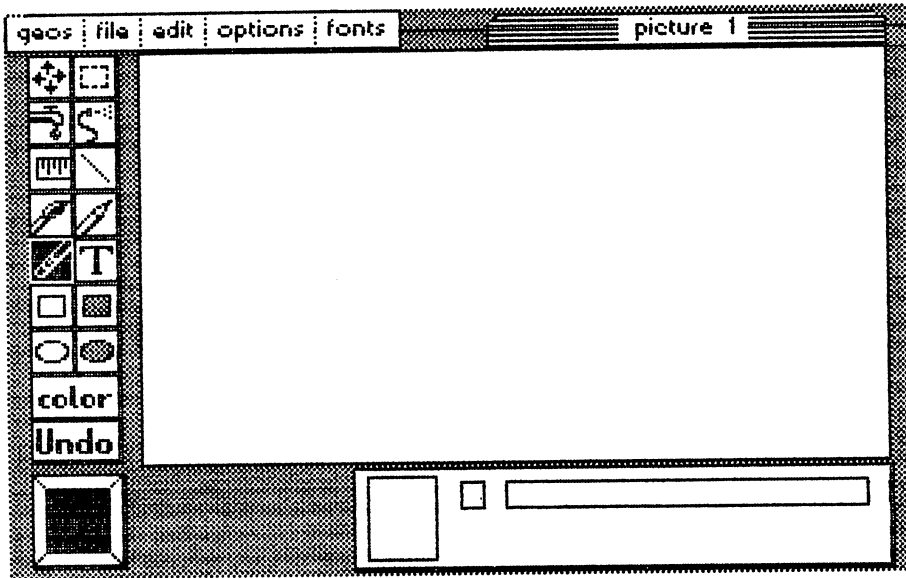

Figure 17: geoPaint
**Note:** As we mentioned at the beginning of this book, sprites do not appear in hardcopy. Therefore the small rectangle does not appear in Figure 17.